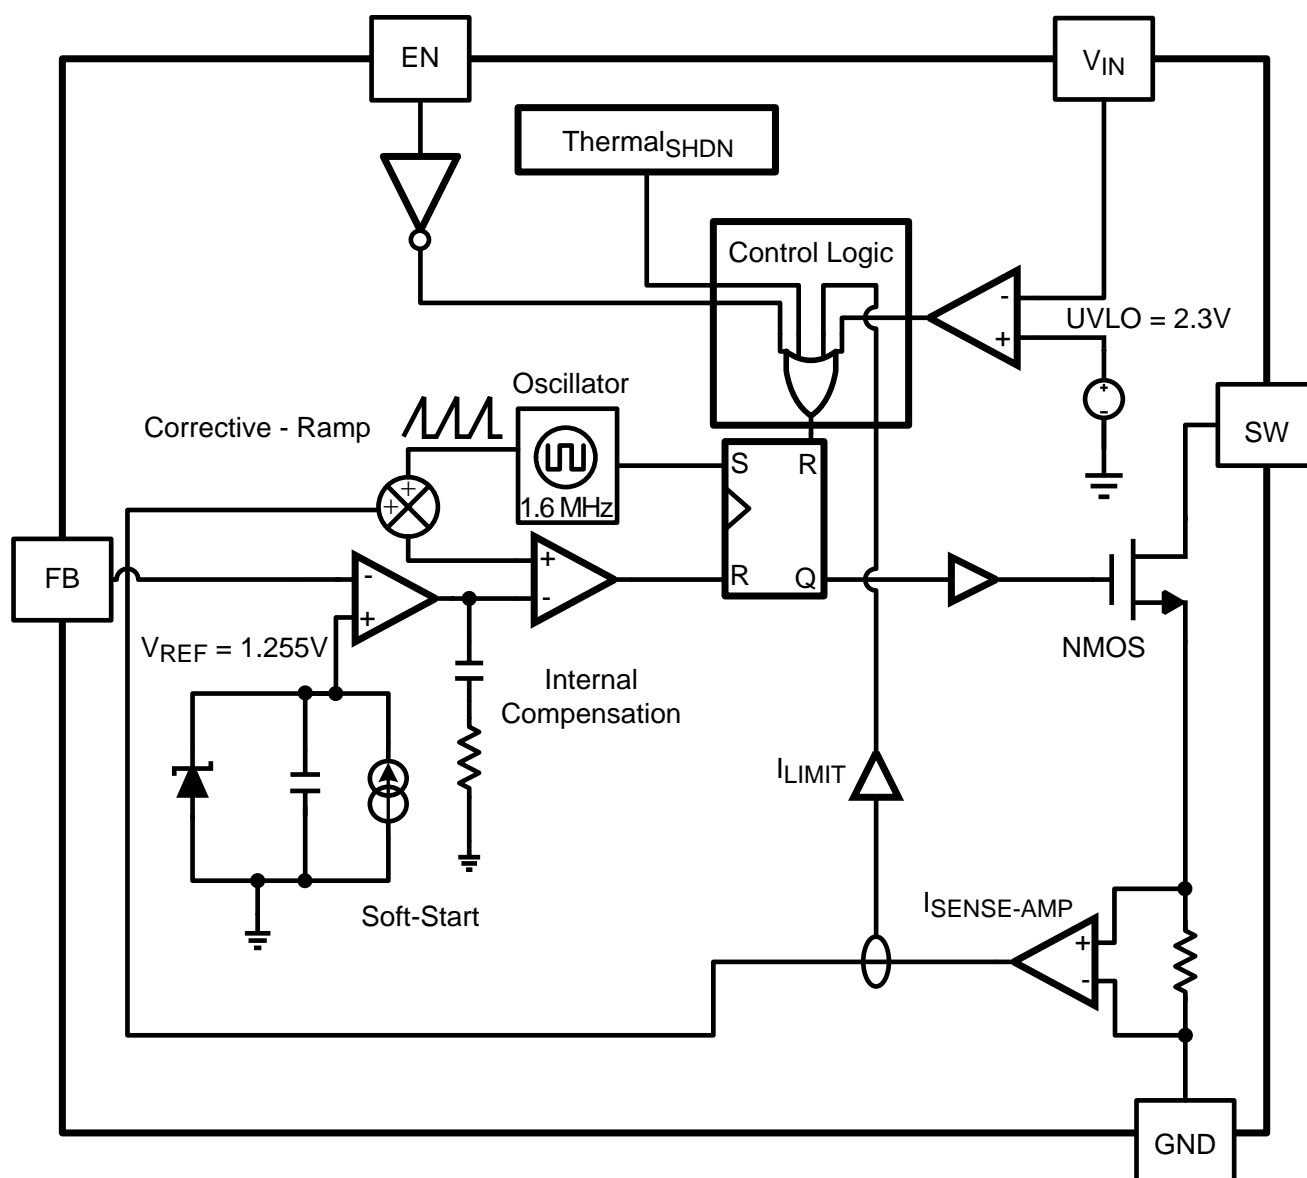
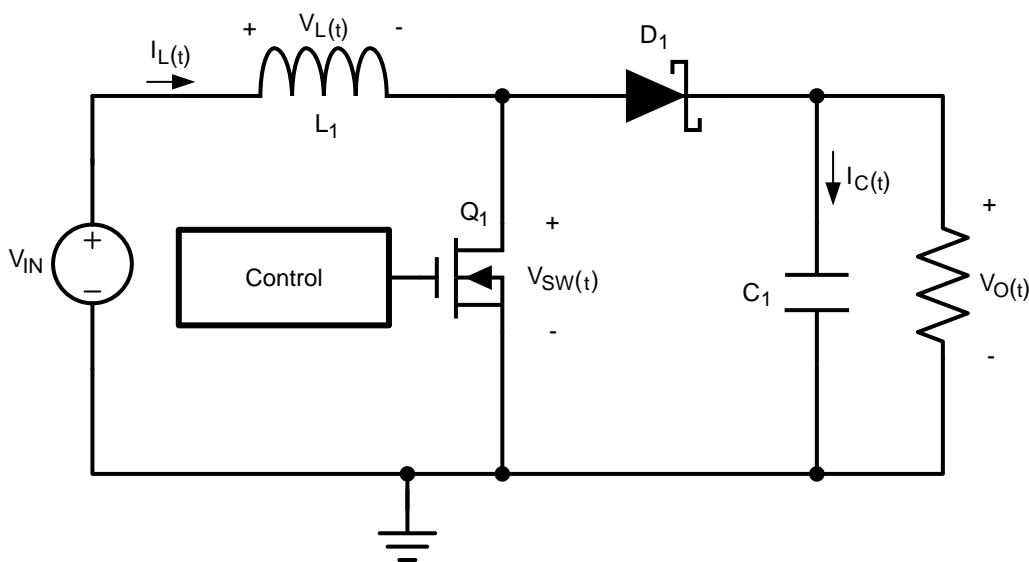
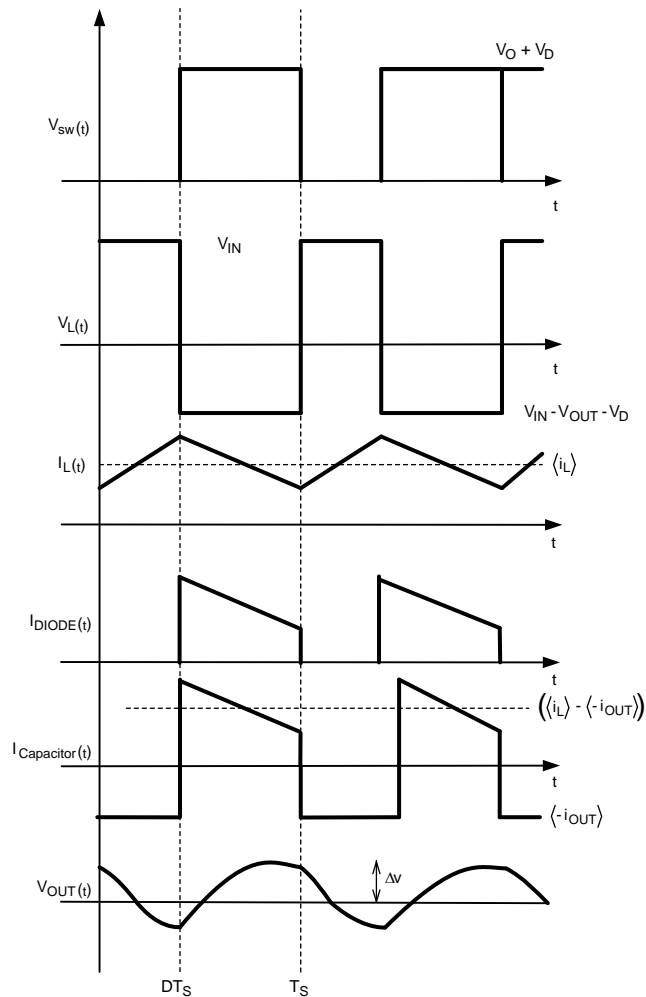

Figure 12. Simplified Block Diagram
Figure 13. Simplified Schematic
Figure 14. Typical Waveforms
The following operating description of the LMR62421 will refer to the Simplified Block Diagram (Figure 12) the simplified schematic (Figure 13), and its associated waveforms (Figure 14). The LMR62421 supplies a regulated output voltage by switching the internal NMOS control switch at constant frequency and variable duty cycle. A switching cycle begins at the falling edge of the reset pulse generated by the internal oscillator. When this pulse goes low, the output control logic turns on the internal NMOS control switch. During this on-time, the SW pin voltage (V_{SW}) decreases to approximately GND, and the inductor current (I_L) increases with a linear slope. I_L is measured by the current sense amplifier, which generates an output proportional to the switch current. The sensed signal is summed with the regulator's corrective ramp and compared to the error amplifier's output, which is proportional to the difference between the feedback voltage and V_{REF} . When the PWM comparator output goes high, the output switch turns off until the next switching cycle begins. During the switch off-time, inductor current discharges through diode D1, which forces the SW pin to swing to the output voltage plus the forward voltage (V_D) of the diode. The regulator loop adjusts the duty cycle (D) to maintain a constant output voltage.